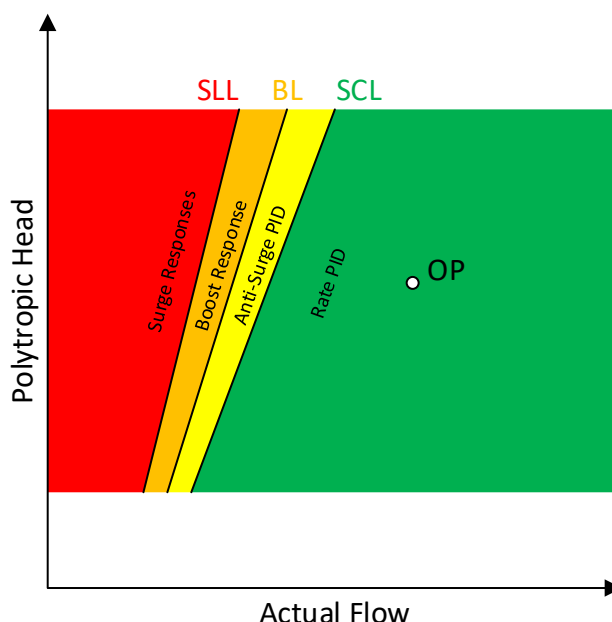

Figure 2-8. Protection Regions on the Compressor Performance Map
Each anti-surge routine is designed to operate in a certain region of the compressor performance map. In total, these routines encompass the entire operating region, as shown in Figure 2-8.
There are two routines dedicated to responding to a surge. Surge Recovery and Surge Minimum Position (SMP) are the routines that react to a surge with a fixed (open loop) valve action. The amount of corrective action taken by these routines is not dynamic; it is pre-configured in the ASCE. These routines operate in the red region in Figure 2-8.
There are four routines that act to prevent surge while maintaining stable process conditions. Starting from the SLL and working to the right, the first routine is Boost. This routine monitors the operating point with respect to the Boost Line (BL). If the operating point crosses the line, it initiates a momentary small step increase in the anti-surge valve position to prevent further movement toward the SLL. The Boost routine operates in the orange region in Figure 2-8.
The two PID controllers are the main anti-surge protection routines. They monitor process conditions and provide a corrective action until the process returns to an acceptable operating point. These routines provide a continuous modulated output for the anti-surge valve. When the operating point is at the SCL, the anti-surge main PID loop is active. If the operating point is away from the SCL but approaching the SCL rapidly, the rate controller PID loop anticipates the need for action, opening the anti-surge valve earlier in order to slow the operating point's progression toward the SCL. The main PID operates in the yellow region and the rate PID operates in the green region in Figure 2-8.
Even when the operating point is not on the SCL, the decoupling routines act to stabilize the process by minimizing the interaction of the anti-surge routines and other controllers (for example, performance controllers). The decoupling routines operating in the green region in Figure 2-8.